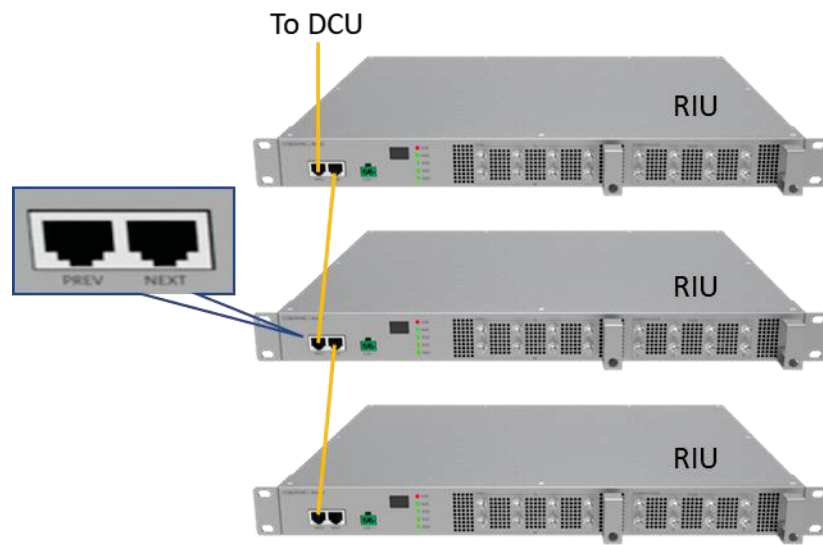

Figure 6. RIU Monitoring Diagram
**Device management:** Remote control and monitor of RIU is available on the DCU via the 2xRJ45. connections. In the case of multiple RIU applications, the management can be achieved with a cascading topology, shown in Figure 6. Figures 7-8 show the RIU interfaces. Table 1 lists the interfaces' descriptions.